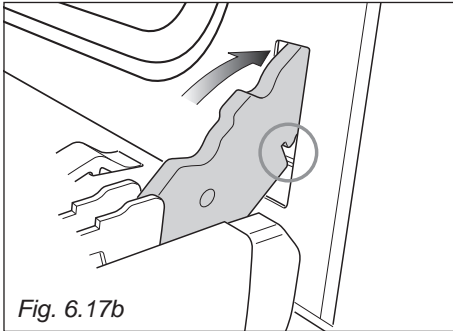

Fig. 6.17b
2. Insert the hinge tongues into the slots, making sure that the groove drops into place as shown in the figure 6.17b.